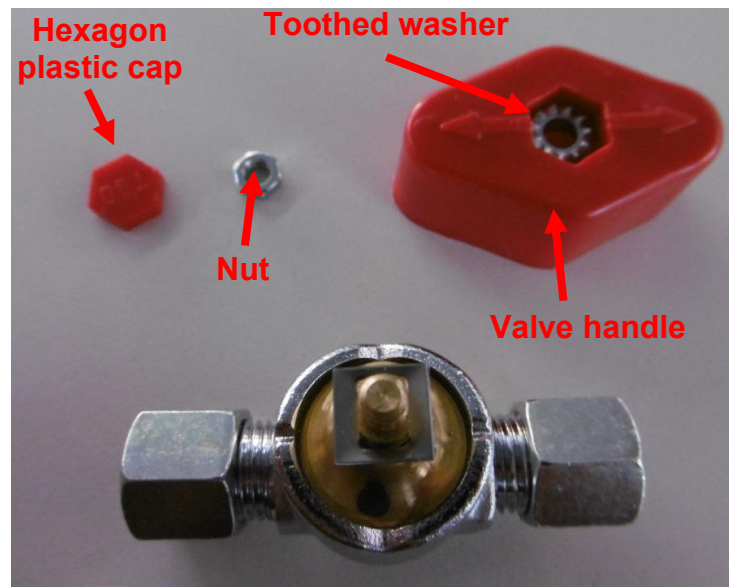

Figure 1
- 1.8.2 Remove the hexagon-shaped plastic cap from the fuel shut-off valve handle, refer to Figure 1. Keep the plastic cap.
- 1.8.3 Remove the nut, toothed washer and valve handle, refer to Figure 1. Keep all removed parts.